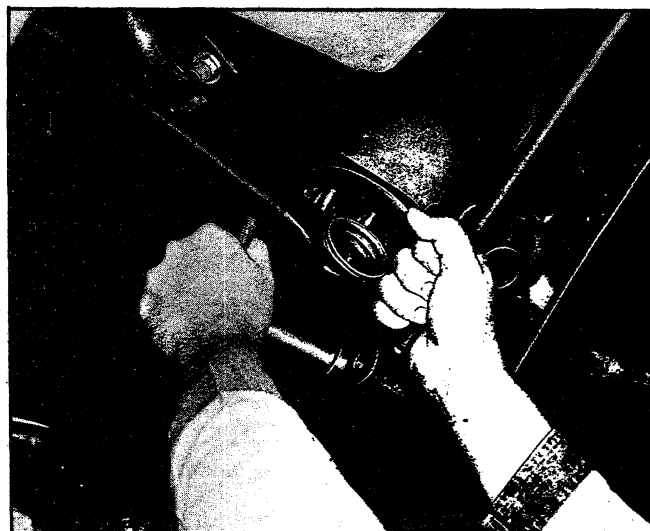

Fig. 53—Removing Strut Rod Shaft (Corvette)
3. Remove strut rod shaft cotter pin and nut. Withdraw shaft by pulling toward front of vehicle (fig. 53).